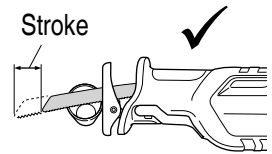
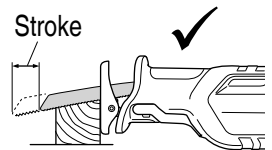

Fig. 11
Fig. 13
- **Select a saw blade of the most appropriate length. Ideally, the length protruding from the base of the saw blade after subtracting the stroke quantity should be larger than the material (see Fig. 11 and Fig. 13).**